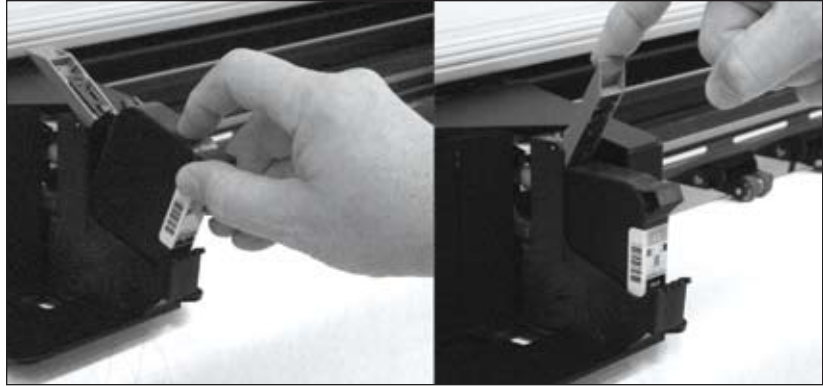

Figure 15. Insert ink cartridges at an angle into the cartridge bay. Lock in place with the stall latch.
3. Insert the new cartridge with the print head pointing down toward the rear of stall and at a slight outward angle. Press firmly while rotating the top of cartridge toward the back of the stall until it stops in an upright position. (*See Figure 15.*)